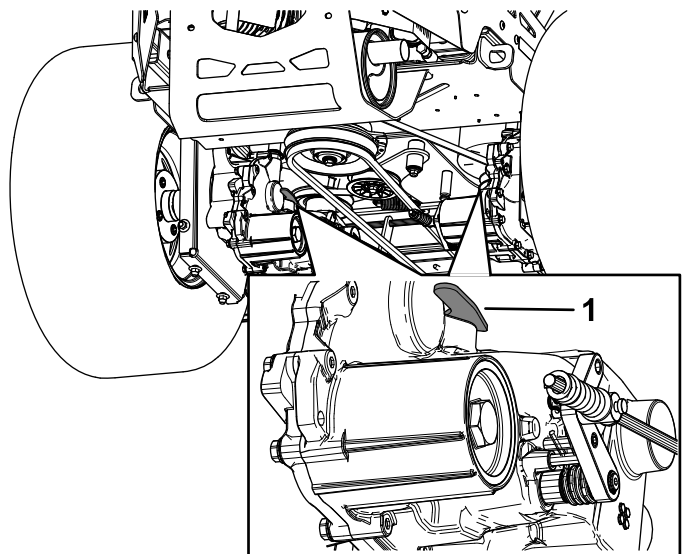

Figure 37
3. To push the machine, move both bypass levers forward and lock them into place (Figure 37).
5. To run the machine, move the bypass levers rearward and lock them into place (Figure 37).